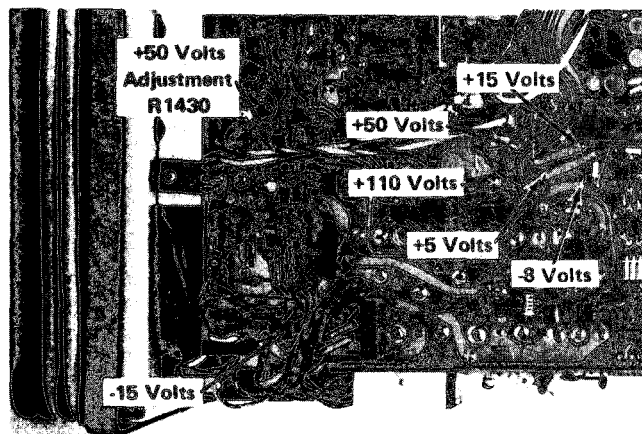

Fig. 5-2. Low voltage power supply test points and +50 V adjustment.
a. Connect the Precision DC Voltmeter between test point +50 V and GND (negative meter lead to ground) on the main interface board. See Fig. 5-2.
c. ADJUST— +50 volt supply adjustment, R1430, (see Fig. 5-2) for a meter reading of +50 volts, within 0.1% or 50 mV.
d. Using the Precision DC Voltmeter, measure the low voltage power supplies given in Table 5-5. Observe proper meter polarity. See Fig. 5-2 for test point locations.